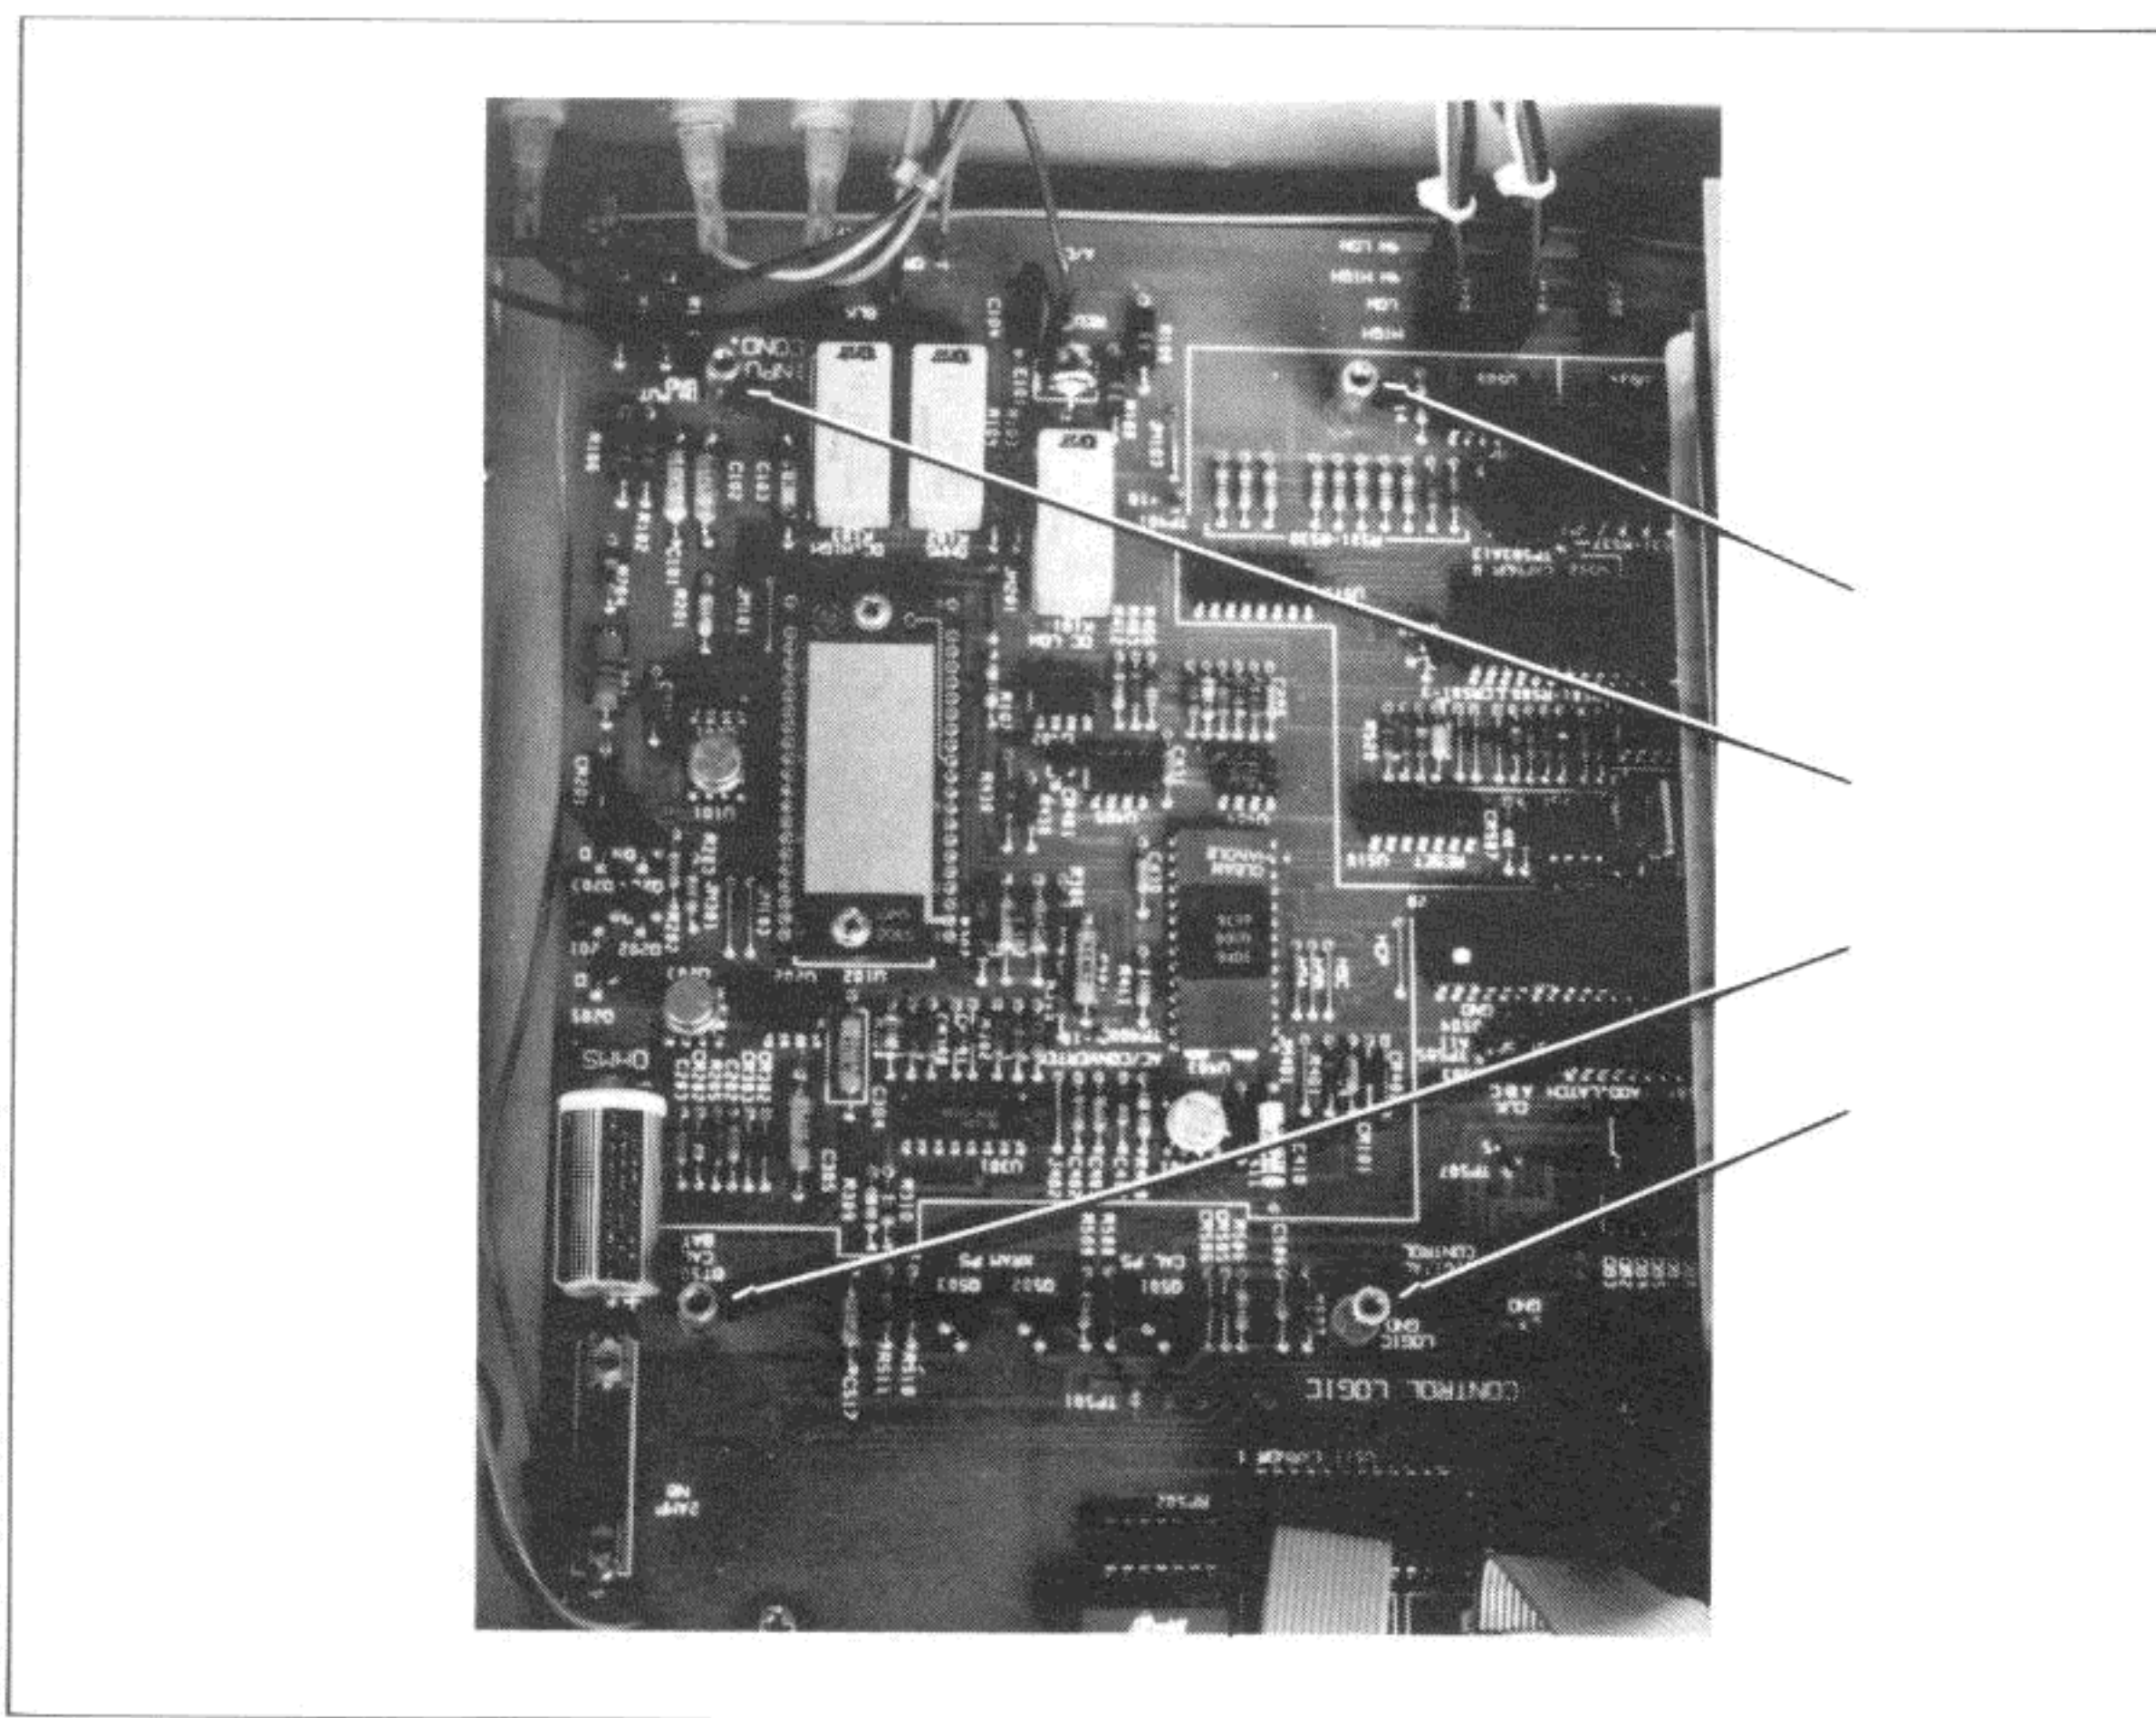

Figure 1-8-9. Standoffs for Motherboard Ground
1. Leave the bottom hex standoffs in place to secure the motherboard to the chassis. This ensures that the motherboard has a good ground, as shown in Figure 1-8-9.